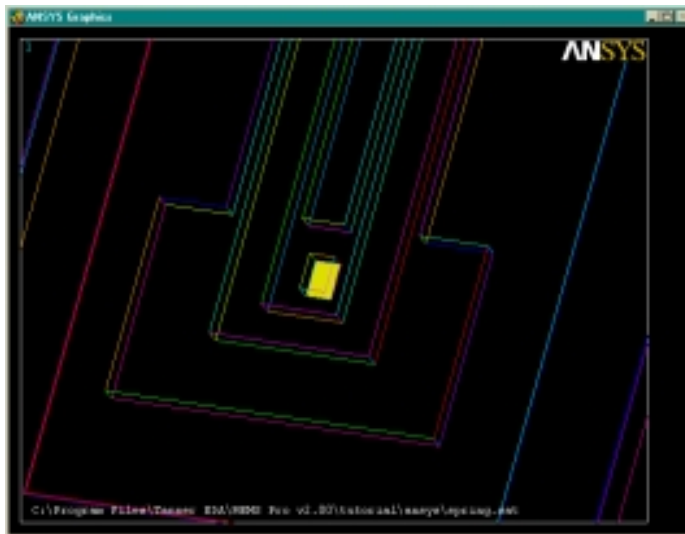

Figure 109: Selecting a particular area of the 3D model
- ☑ Now hold the left mouse button down and drag the pointer around the display. Notice that different areas are highlighted while the pointer is over them. Drag the pointer over the anchor area until it is highlighted, as in Figure 109. Releasing the mouse button will pick this area (which should be number **59**). If you